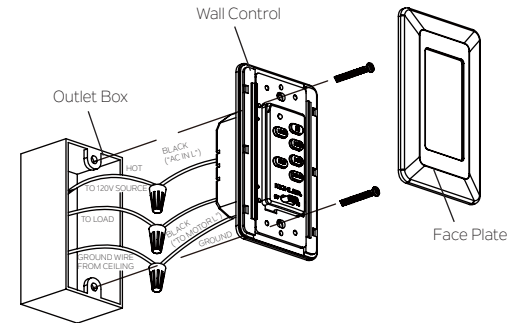

Fig. 16
**Step 2.** Place the wall control to the outlet box, connect the wires with wire connectors provided. (Fig. 16)